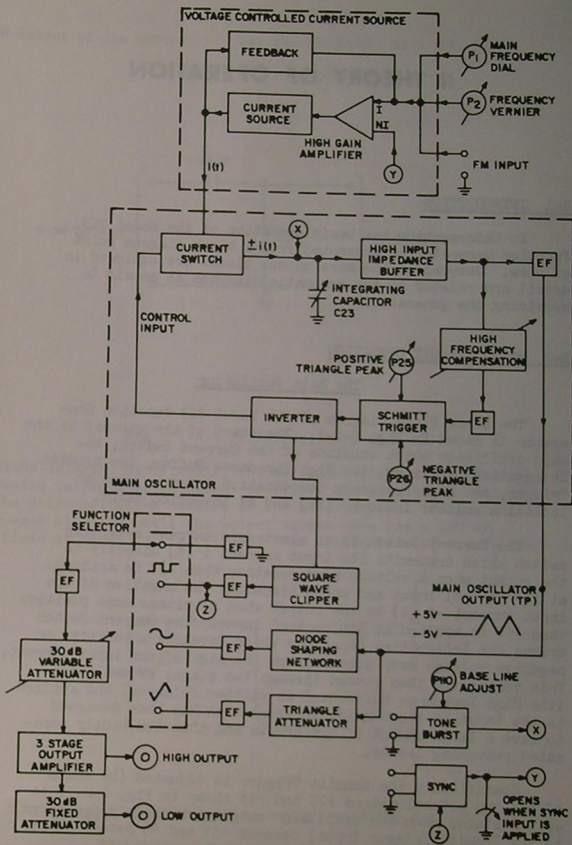

Figure 2-2-1. Model 743 Function Generator Block Diagram
The basic block diagram of the Model 743 Function Generator is shown in Fig. 2-2-1. The heart of the circuit is the main oscillator which consists of the Current Switch, the Integrating Capacitor, the High Impedance Buffer, the Schmitt Trigger, the High Frequency Compensation network, plus an isolation emitter follower (EF) and an inversion stage.
Specifically the Schmitt Trigger is adjusted (by means of the two potentiometers P25 and P26 shown in Fig. 2-2-1) to switch states when the oscillator output (which is proportional to the Schmitt Trigger input) reaches  $+5V$  and to return to its original state when the oscillator output reaches  $-5V$ .